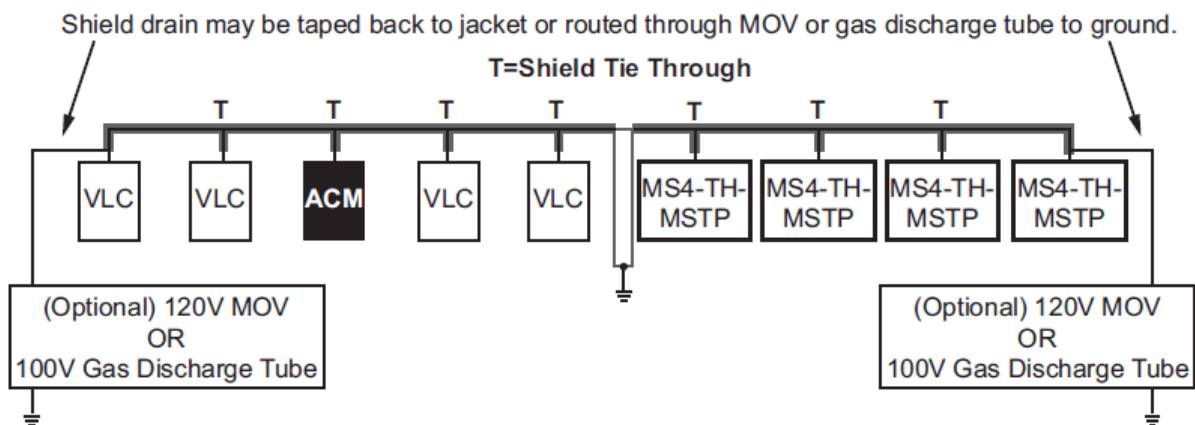

Figure 10 Shield drain termination and tie through.
- Each segment must have a single point of shield ground, as close to the middle of the cabling run as possible (see Figure 10).
- At ungrounded, exposed shield points (the end of a segment), tape back the shield to the wire jacket or, for optimum transient shunting, use 100V gas discharge tubes or 120V MOVs between the shield and ground. See Figure 10.